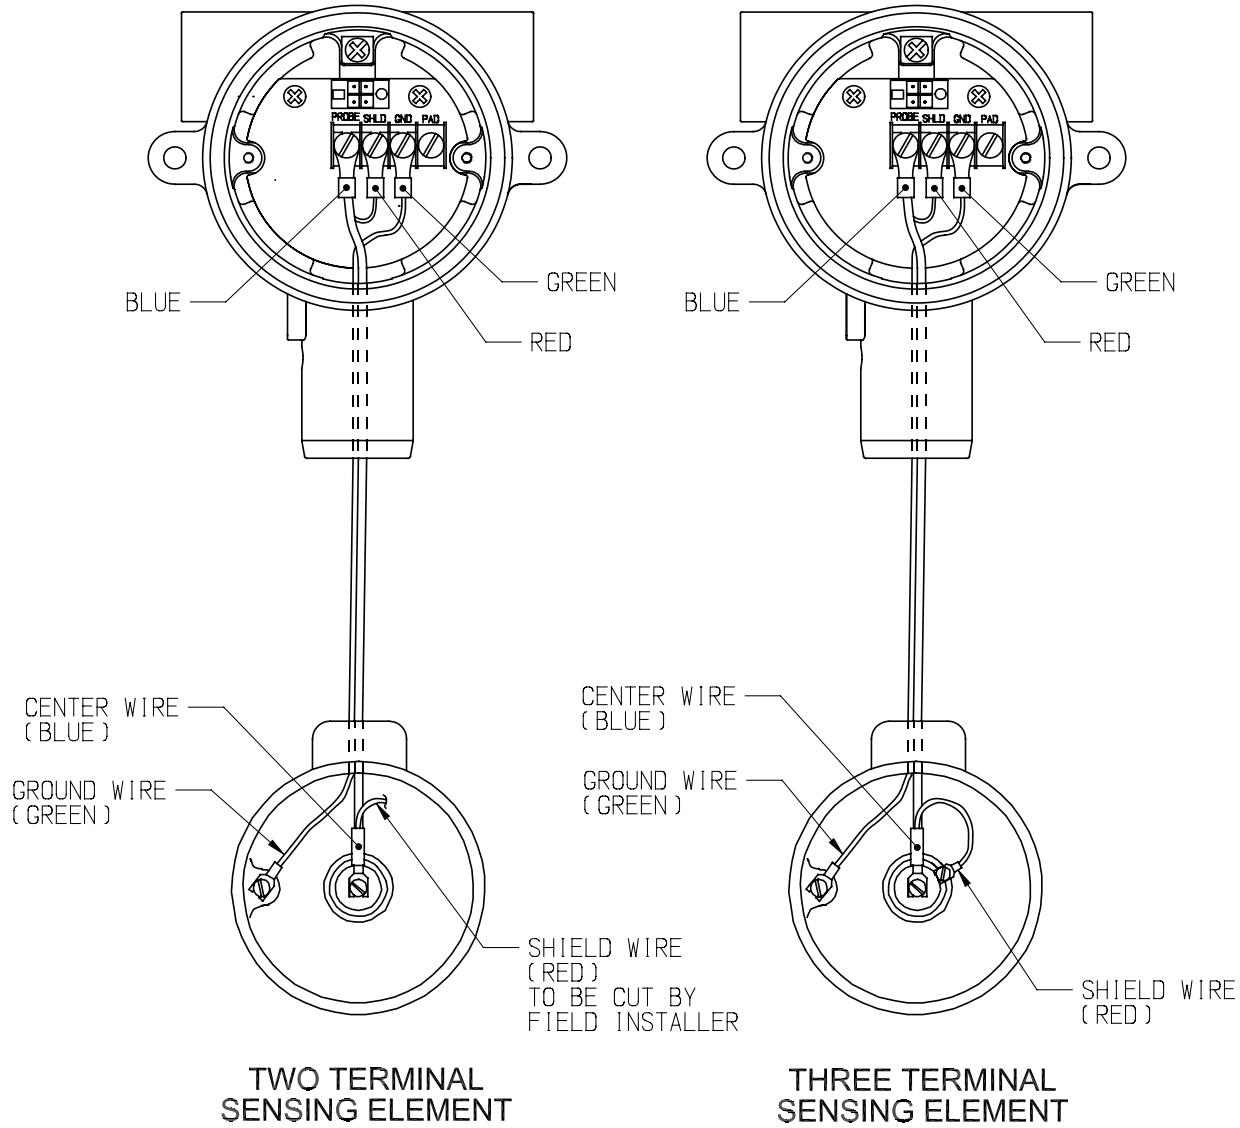

Figure 2-8
See Figure 2-8 for wiring connections of the remote unit. The cable from the sensing element is connected to the terminal strip below the instrument chassis. The cable connections are sensing element (prb) or center wire (cw), ground (gnd), and shield (shd).
The cable connections to the remote sensing element are shown in *Figure 2-8*
- If the sensing element does not have a shield connection, (the most common condition for a 2-terminal sensing element) be sure to clip and /or tape the shield wire at the sensing element end of the cable only. See *Figure 2-8*.
* For sensing elements that do not have shield connections, clip the shield wire as shown in **Figure 2-8**.